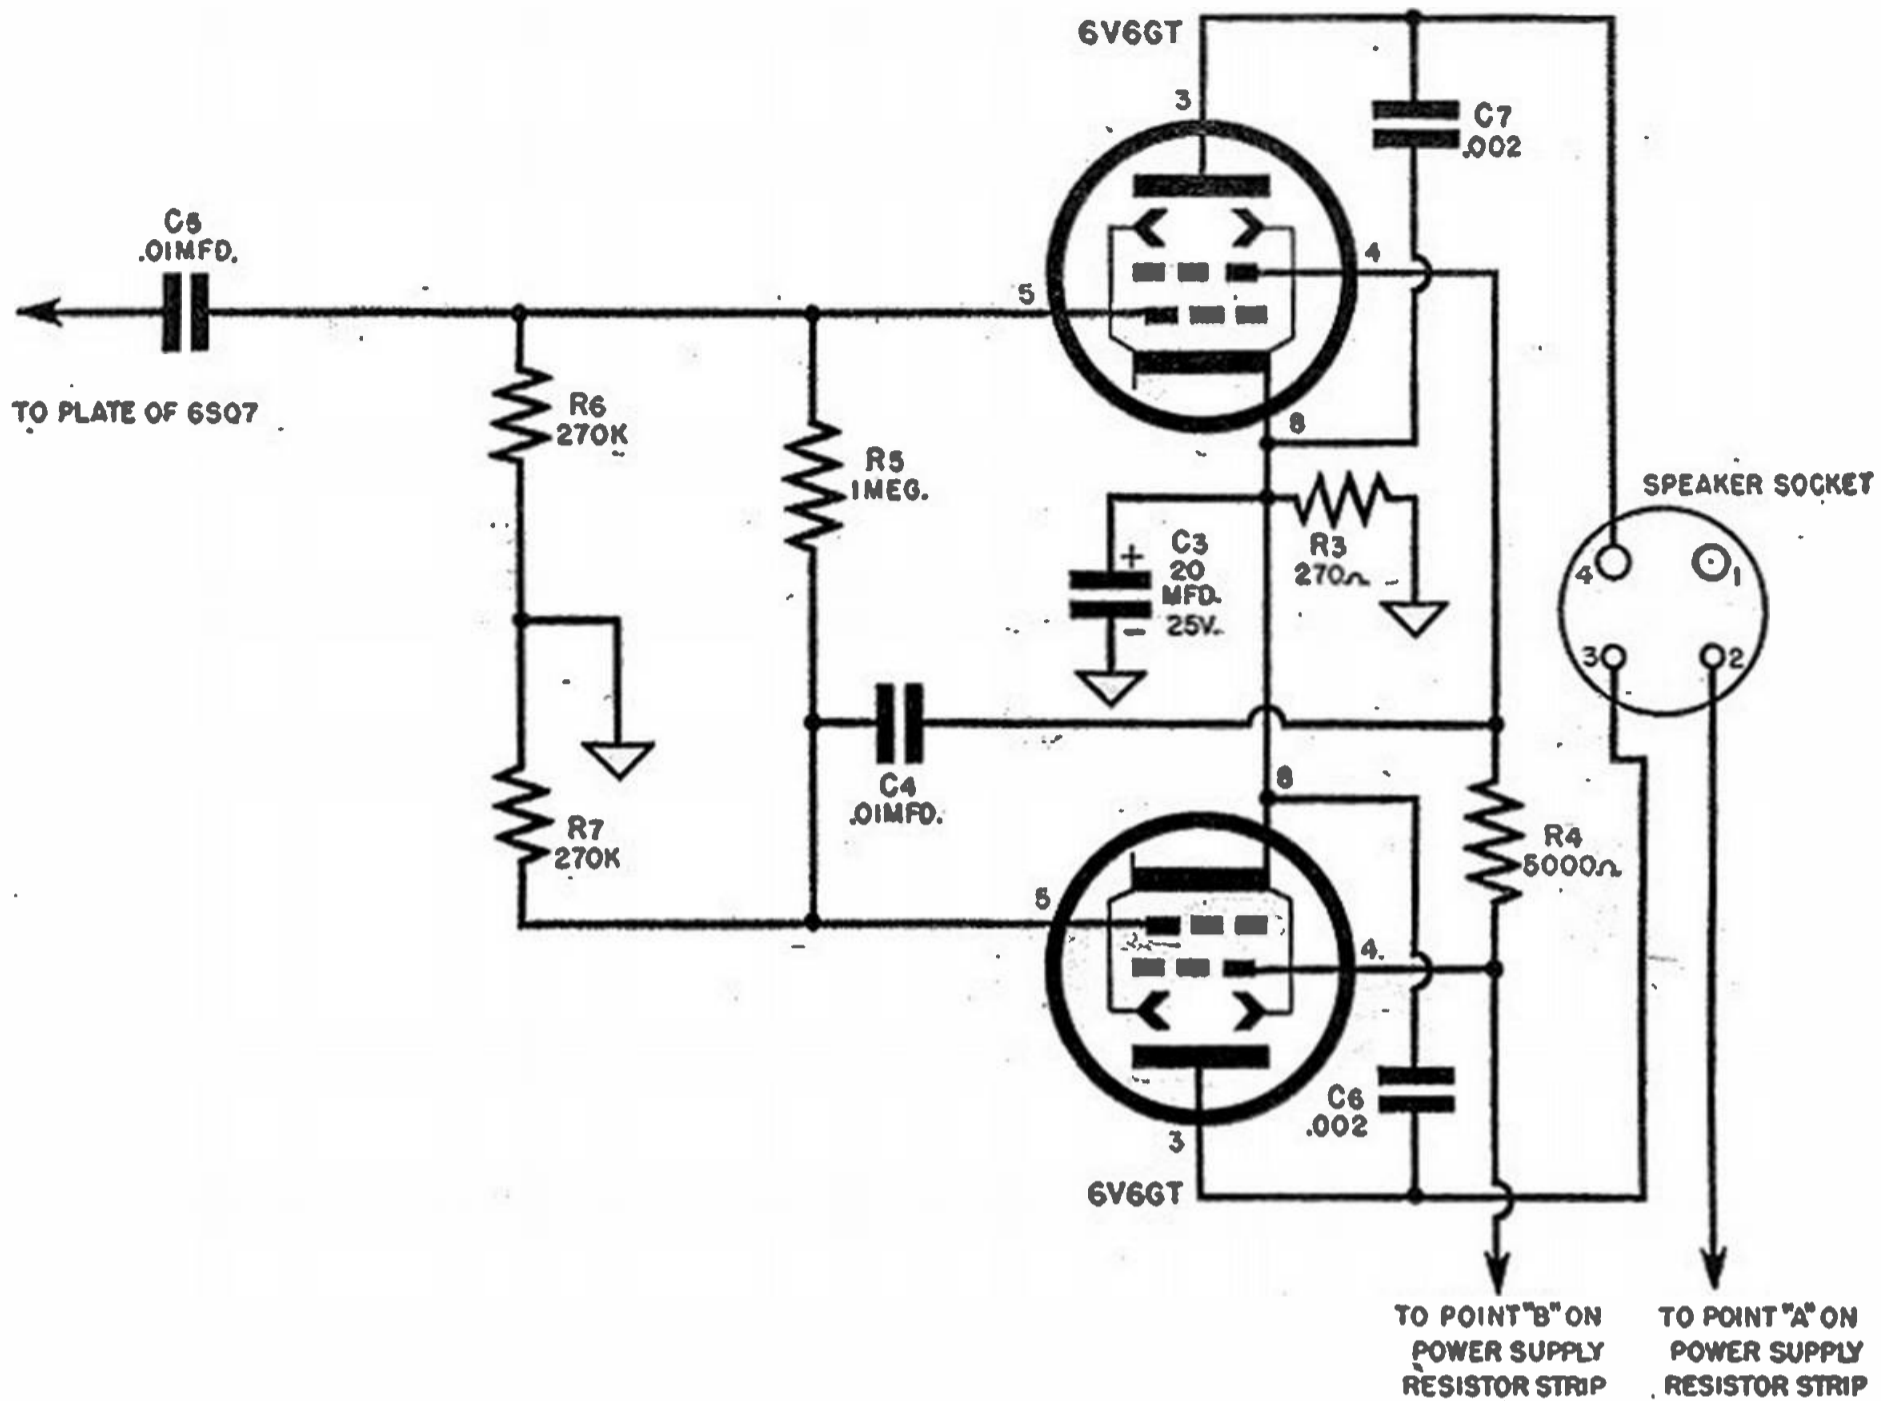

Fig. 2-33. Connections to the 4-pin speaker socket.
c) *Output Circuit.* The output stage wiring is shown in Figure 2-33. Wire exactly as shown in the drawing, being careful to connect C4 between the screen of the upper 6V6GT and the grid of the lower one. Observe that resistor R4 is between the screen of the upper tube and the B supply, while the screen of the lower tube is connected directly to B supply. These precautions must be observed, otherwise the stage will not function properly. Figure 2-33 shows the connections to the 4-pin speaker socket, while 2-34 illustrates the wiring of the corresponding plug.